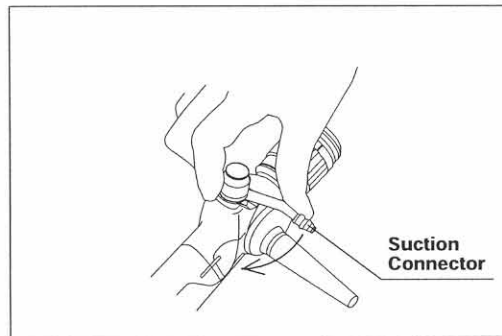

Figure 7.6
2. Remove the Suction Valve from the endoscope and discard it. (See Figure 7.6)